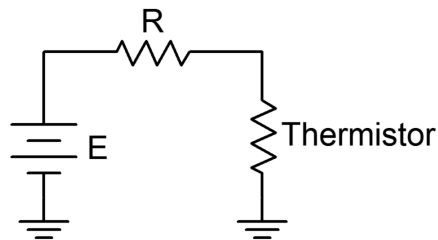

Figure 2
8. Build the circuit of Figure 2 using $E=10$ volts and $R=10\text{ k}\Omega$. Measure the voltage across the thermistor and record it in Table 5 under “Room Temp”.